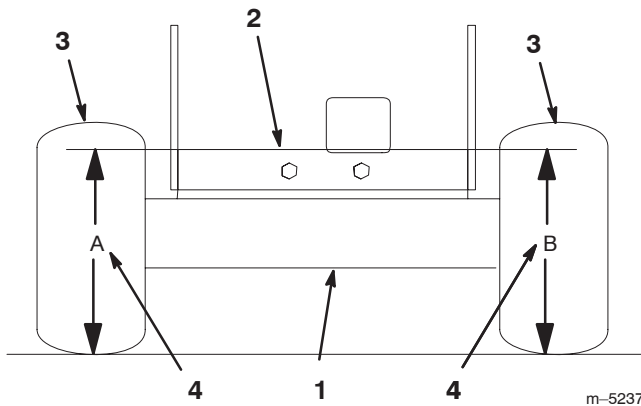

Figure 61
4. Measure engine deck height at location A (Fig. 61).
5. Measure engine deck height at location B (Fig. 61).